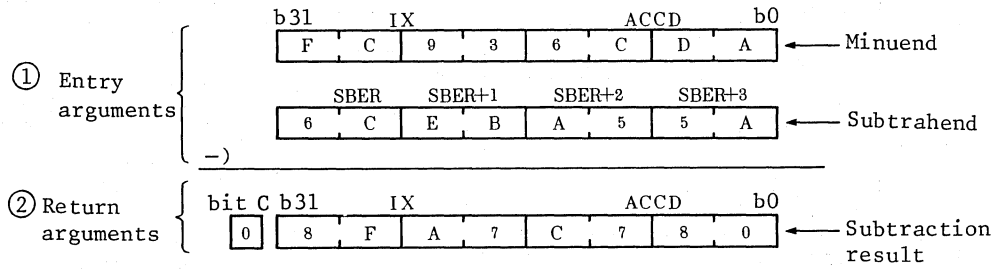

Fig. 1 Example of SUB execution
(b) Fig. 1 shows example of SUB execution. If entry arguments are as shown in part ① of Fig. 1, subtraction result is contained in IX and ACCD as shown in part ② of Fig. 1.